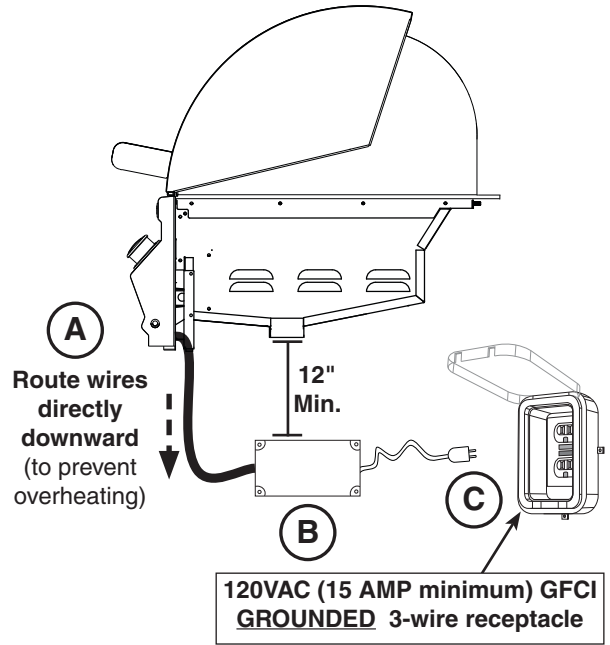

Fig. 24-1 Electrical installation
1. Route the wire harness extension below the control panel and directly downward. This will prevent overheating. **DO NOT** route the wire extension below the grill. See Fig. 24-1, A.
2. Mount the power supply to the inside of the enclosure using appropriate hardware for your enclosure. It **MUST** be located at least 12 inches below the bottom of the unit. See Fig. 24-1, B.
3. Connect the cord coming from the power supply to a **120VAC (15 AMP minimum) GFCI GROUNDED 3-wire receptacle** (see Fig. 24-1, C). The GFCI receptacle must be a **WEATHER-PROOF IN-USE COVERED RECEPTACLE**.